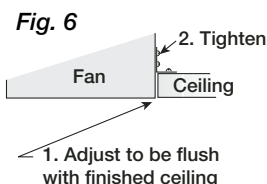

Fig. 6
**For Frame Construction:** Position unit between joists. Position brackets such that bottom edge of housing will be flush with finished ceiling, and tighten the adjustable mounting brackets, shown in Fig. 6.